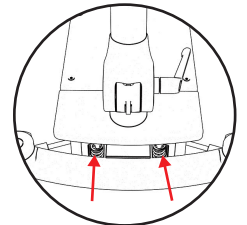

FIG. 3 - SPRINGS
5. The self centering springs in the front of the CycleBoard may initially make squeaking and clicking sounds when steering but will stop after a short break in period. Shown in **Fig 3**.